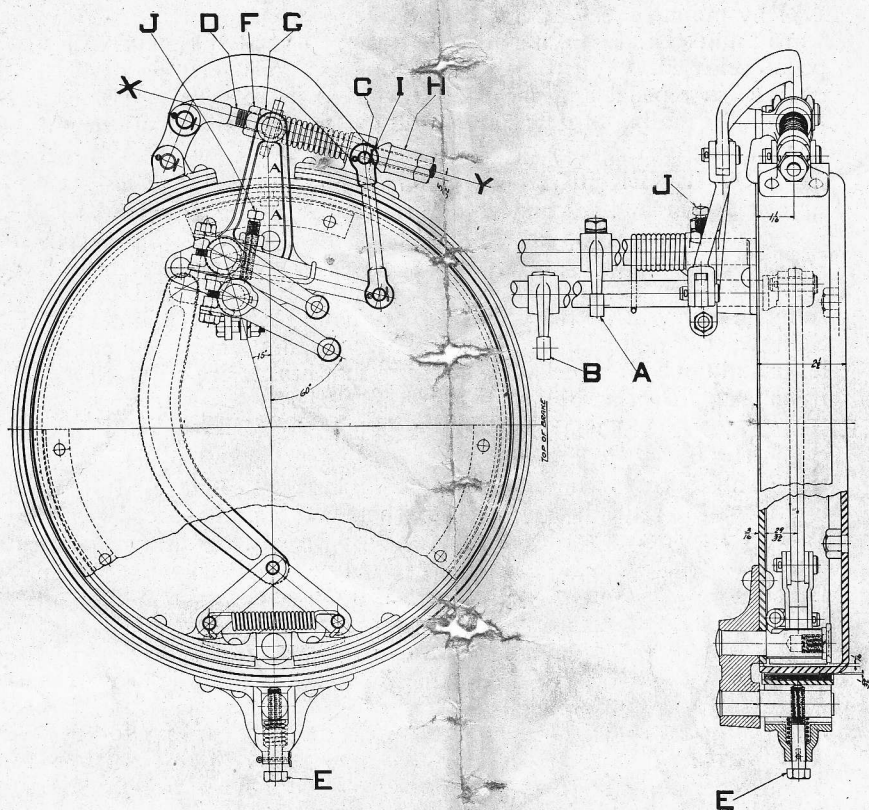

FIG. 10—BRAKE ASSEMBLY
BRAKES. FIG. 10.
To adjust brakes, jack up so that both wheels are free from ground; disconnect brake pull rods so that levers (A), shown in Fig. 10, are in their natural position. Adjust set screw (J) so that eye of operating lever at (C) is in its correct position with reference to center line of adjusting rod (D). Lock (J) with jam nut and make sure that end of set screw rests against clamped collar. Adjust screw (E) to get $\frac{1}{2}$ of an inch clearance between drum and lining.
TO ADJUST INNER BRAKES. FIG. 10.